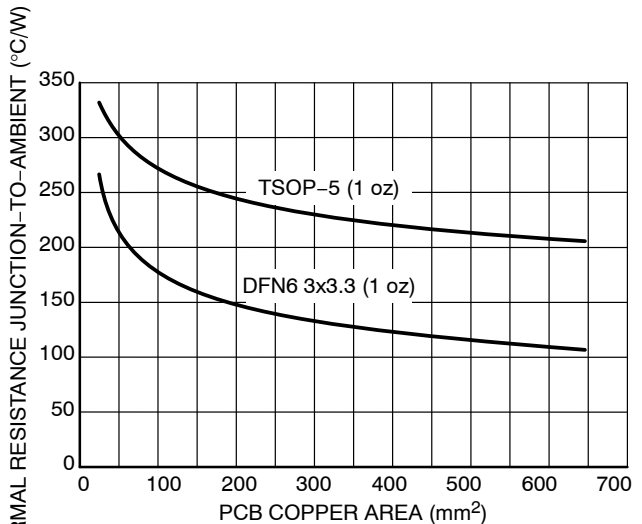

Figure 34. RthJA vs. PCB Copper Area
600 mW when the ambient temperature (TA) is 25°C, and PCB area is 150mm2 and larger, see Figure 34.